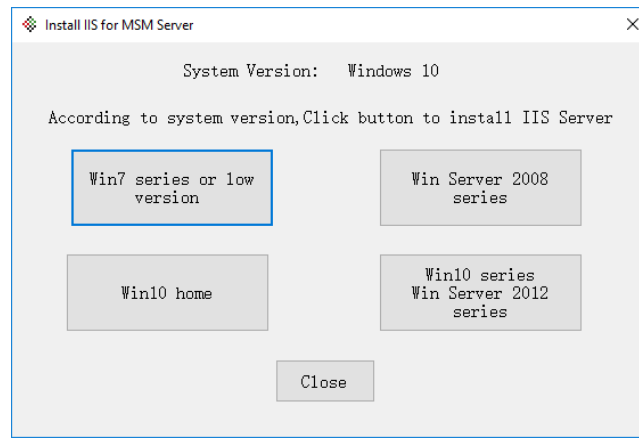

Figure 11
13. If IIS is not already installed, the IIS Installation window will appear. (Figure 11) See Appendix C of this manual for IIS installation details.